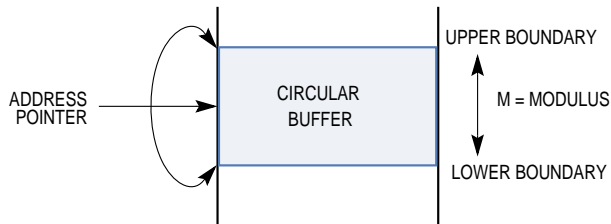

Figure 16-9. Circular Buffer
**16.3.3.2 MODULO ADDRESSING.** The input and output buffers are circular within a certain programmable size that must be a multiple of  $2^k$ . The base address of the circular buffer must be aligned on its natural size boundary. For example, if your input buffer size is 128 bytes, your base address must be aligned on a 128-byte boundary. In other words, the lower boundary (base address) of a circular buffer containing modulus (M) bytes must have zeros in the k LSBs of the base address, where  $2^k \geq M$ , and therefore must be a multiple of  $2^k$ . The upper boundary is the lower boundary, plus the size minus one (base address + M-1). Once M is chosen, a sequential series of memory blocks (each of length  $2^k$ ) is created where these circular buffer can be located. If  $M < 2^k$ , there is a  $2^k - M$  space between the sequential M-sized circular buffers and M must be a multiple of four. See Figure 16-9 for details.